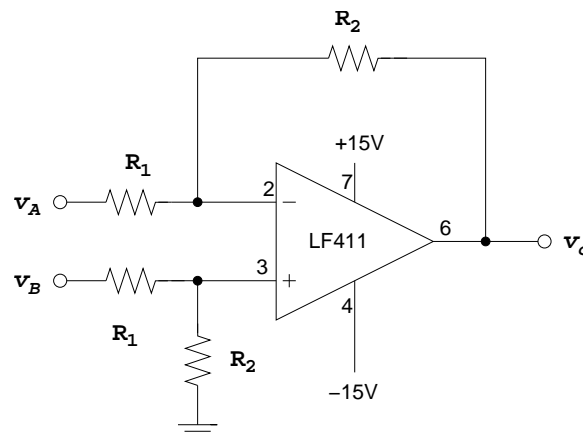

Figure 1.
1. Construct the following differential amplifier (Figure 1) with R_1 between 4 and 6 k Ω and the difference of V_a and V_b amplified by about 30. Build it in the center of your protoboard to leave plenty of room for later additions.
1. Consider the difference amplifier shown in Figure 1 and in Example 2.6 in Sedra and Smith. Design the amplifier with a differential gain of about 30 with R_1 between 4 and 6 $\text{K}\Omega$.